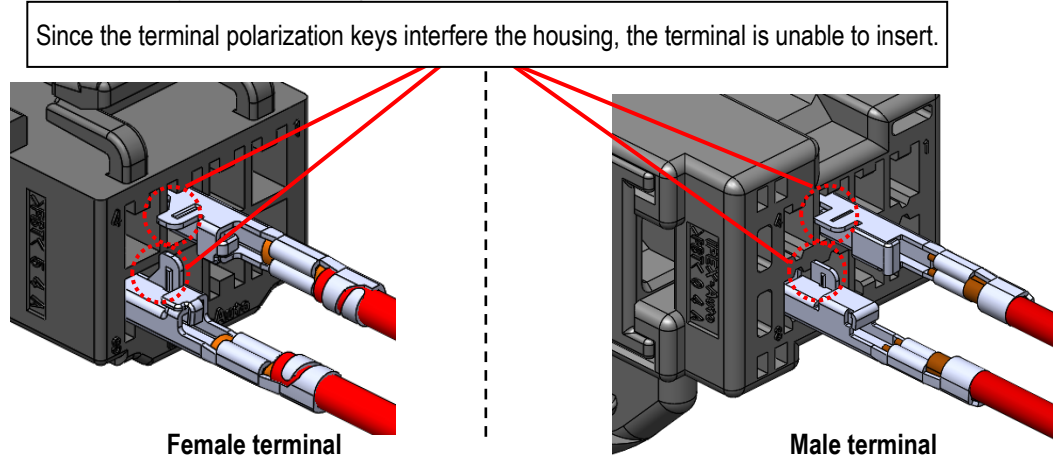

Fig.27 Orientation of incorrect terminal insertion
- ① Terminals must be inserted in the orientation instructed. Forcibly inserting terminals in any other orientation may result in damage or deformation. Terminal can not be inserted in the incorrect orientation. (see Fig.27)
- ② Once the terminal is inserted, do not apply excessive pulling force to the wire.